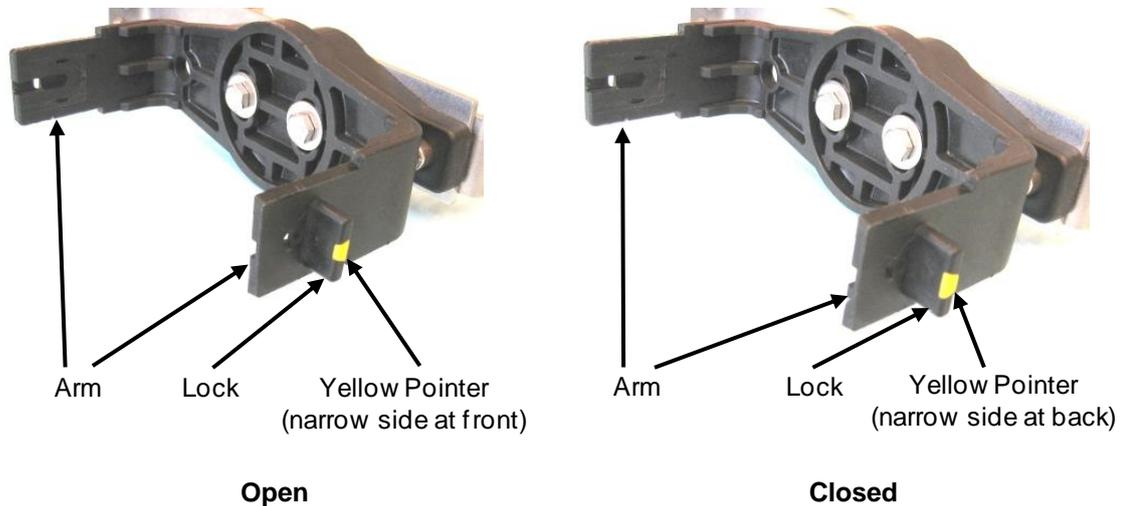

Figure 16: Bracket Lock
1. Make sure that the bracket locks are open on both sides of the bracket arms (Figure 16).
3. Rotate both bracket locks 180° (Figure 16) to lock the unit into place.